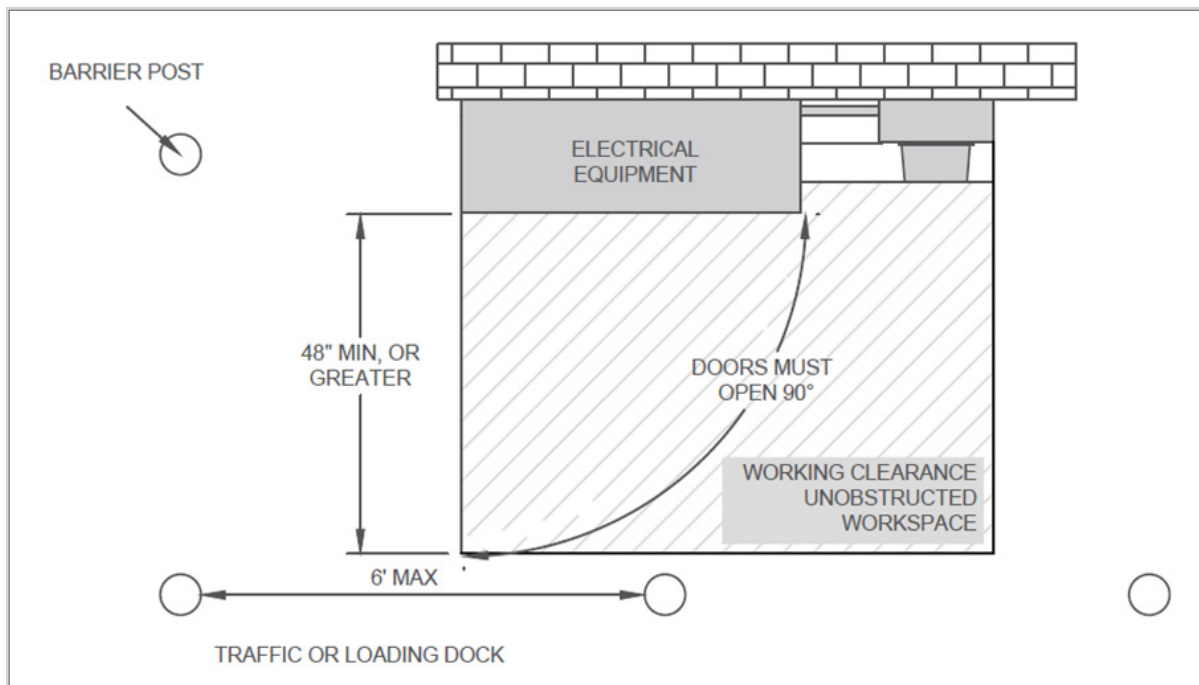
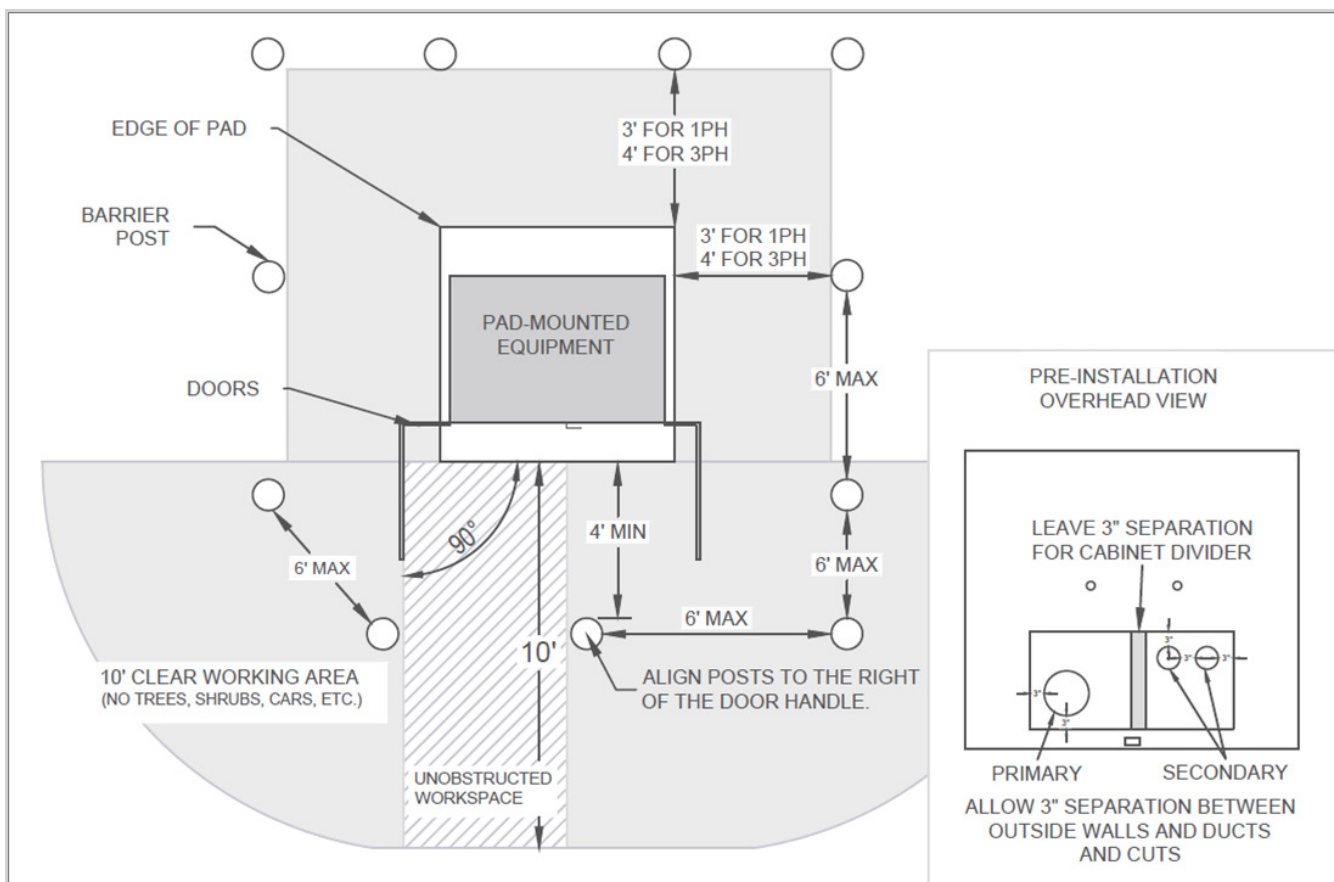

Figure 36: Placement and Clearances for Barrier Posts Around Electrical Equipment
Figure 37: Placement and Clearances for Barrier Posts Around Pad-Mounted Equipment
- PGE requires 10 feet of unobstructed working clearance in front of primary conductor connections. See **Figure 36**.
- Do not locate barrier posts in front of the left half of pad-mounted equipment or vaults. See **Figure 37**.
Trench designs must provide suitable protective earth cover and separation between PGE-energized cables and other joint trench utilities along the entire trench length. **Figure 36** and **Figure 37** (above) show the minimum requirements for trench depth and cable separation. Communication conduit must be installed before PGE conducts the trench inspection (pre-backfill).